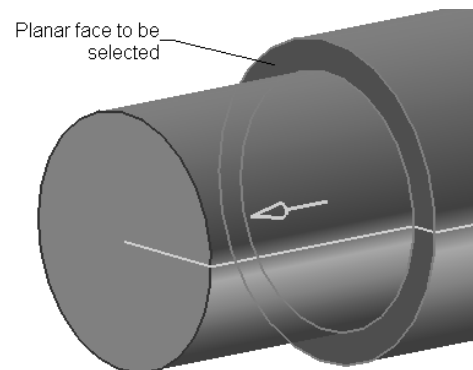

*Figure 8-61 The assembly after assembling the Handle*
13. Select the **MODEL** option from the list box. Choose the **Apply** button and then the **OK** button. The display of the reference sets from the Handle and the Screw are turned off. The resulting assembly, after assembling the Handle, is shown in Figure 8-61.